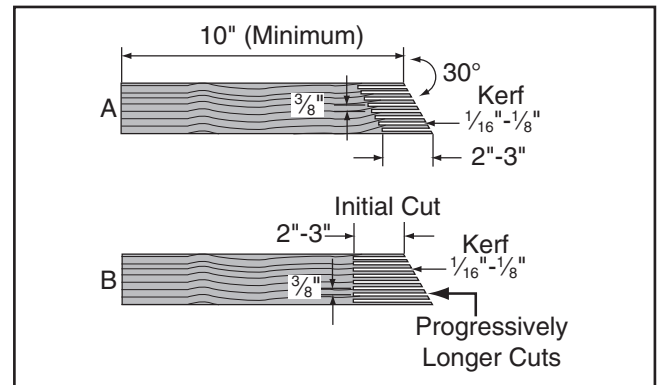

Figure 72. Patterns for featherboards (top view shown).
3. Make a series of end cuts with the grain $\frac{3}{8}$ "– $\frac{1}{4}$ " apart and 2"–3" long, as shown in **Figure 72 (A)**. Alternatively, start cuts at 2"–3" deep, then make them progressively deeper, as shown in **Figure 72 (B)**.